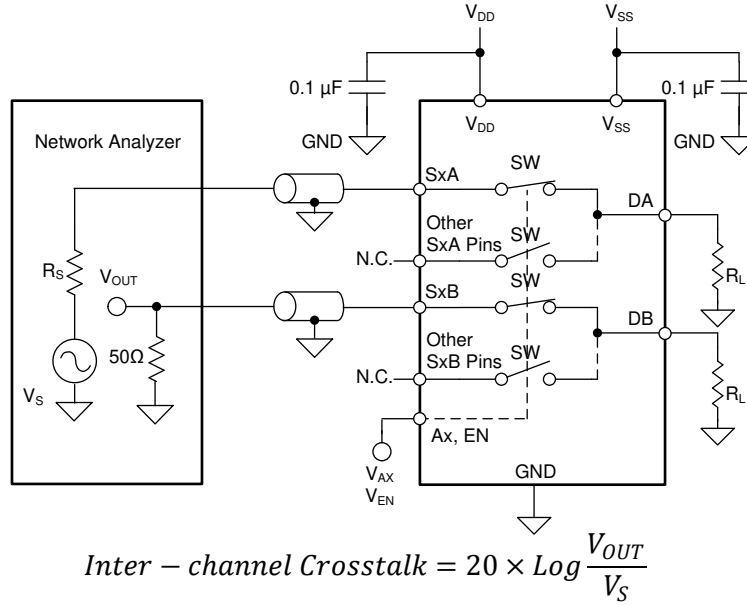

图 8-10. Inter-channel Crosstalk Measurement Setup
2. Inter-channel crosstalk ( $X_{TALK(INTER)}$ ): the voltage at the source pin ( $S_x$ ) of an on-switch input when a signal is applied at the source pin of an on-switch input in a different channel, as shown in 图 8-10. Inter-channel crosstalk applies only to the TMUX8109 device.